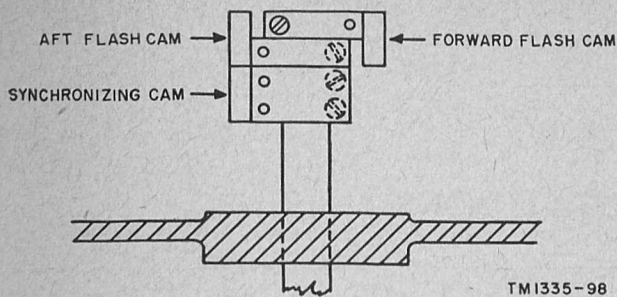

Figure 49. Location of heading flash cams.
a. Refer to figures 29 and 72 for information on connecting handsets to jack J501 in the antenna pedestal and to jack J104 on the indicator. Refer to figure 49 for information on identifying the aft and forward flash cams. Note that each cam can be adjusted by loosening its setscrews and shifting the cam in the required direction. Be sure to retighten the setscrews after making the necessary adjustment.
- (1) Station a man at the indicator and a second man at the antenna.